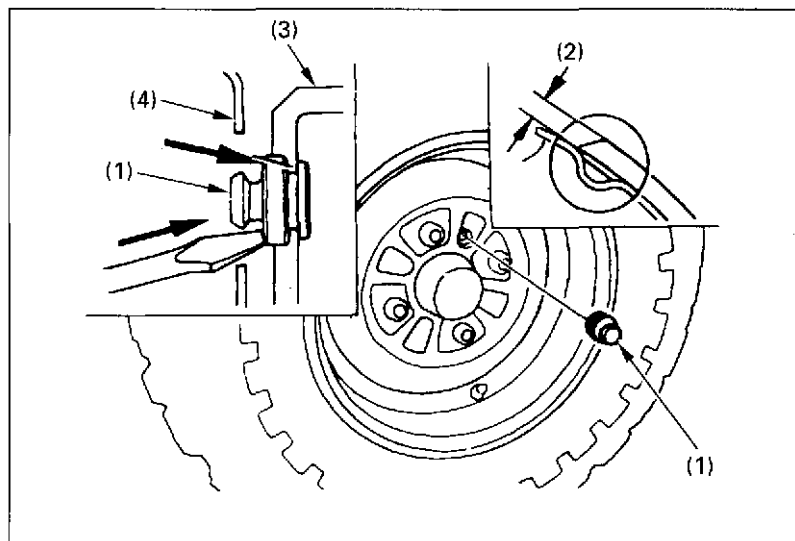
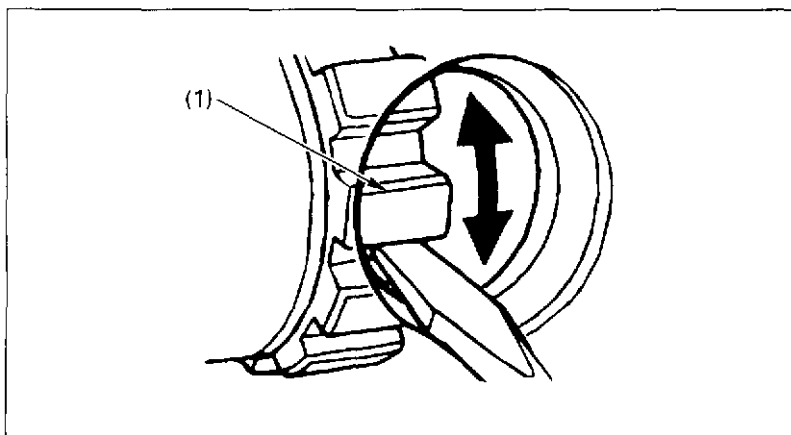

Fig. 4-21
Fig. 4-22
(1) Front brake lever
2. Remove the inspection hole plug (Fig. 4-21) and measure the lining thickness (2) on both front wheels.
3. If the brake lever free play and the brake shoe lining thicknesses are within the recommended limits, reinstall the inspection hole plugs, seating them into the inspection holes as shown in Fig. 4-21.
3. Beginning with either the left or right front wheel, remove the inspection hole plug (Fig. 4-21) and line up the hole with one of the brake adjusters (Fig. 4-22).
4. Using a screwdriver, turn the brake shoe adjuster (1) in the direction of the arrow until the front brake locks.
(1) Brake adjuster
7. Reinstall the inspection hole plug, seating it into the inspection hole as shown in Fig. 4-21.